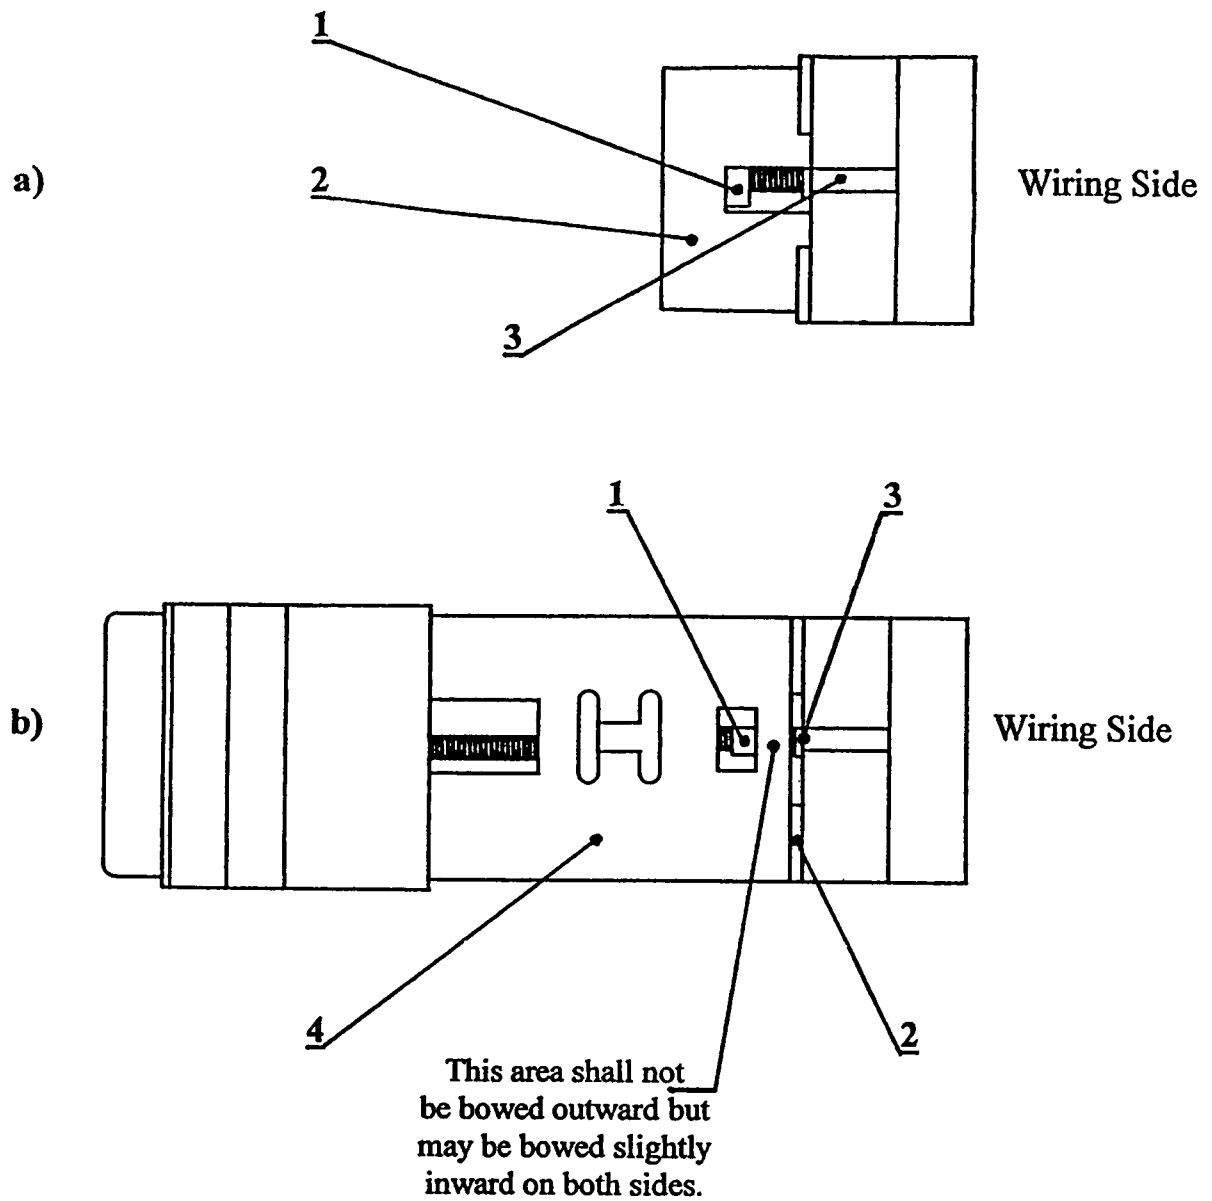

Fig. 1.
1. Before inserting the receptacle assembly into a switch, be sure that both cam nuts (item 1 of Figure 1-a) on the two opposite sides of a receptacle, are positioned at the end of the mounting screw threads, next to the wall of the retainer plate (2), a position which is furthest from the wiring end. If any cam nut is not at the required position, turn screws (3) counter clockwise until each cam nut reaches the position shown.
2. Be sure that the side wall of every cam nut is parallel to the corresponding adjacent surface of the retainer plate (2) so that no part of cam nuts (1) protrudes beyond the outside of this surface.
3. If it is possible, inspect both walls (that have rectangular holes) of the switch housing (4) to make sure that their walls near the ends on the receptacle side are straight and not bowed outward as a result of improper handling or because of previous unsuccessful attempts to install a receptacle. Walls could be slightly bowed inward to assure a good fit with retainer plate (2).
4. Put the receptacle in its proper position in relation to the switch contact pins and carefully, but firmly, insert pre-wired receptacle assembly into the switch housing until it is fully engaged with switch pins (there shall be no sizable gaps between edges of switch housing and stopping surface of the retainer plate). See Figure 1-b for reference.
5. While holding receptacle in the position described above, use torque limiting screwdriver to tighten one of the retaining screws (3) clockwise to the torque value of 10 ± 2 ounce-inches ($.071 \pm .014$ Nm). Then tighten the second screw with the same torque.
6. If it is possible, inspect positions of cam nuts (1) to assure that all nuts are visible in their rectangular windows, that they are turned approximately 90 degrees from their initial position, and that they have moved to the ends of these windows closest to the wiring side, as shown in Figure 1-b.